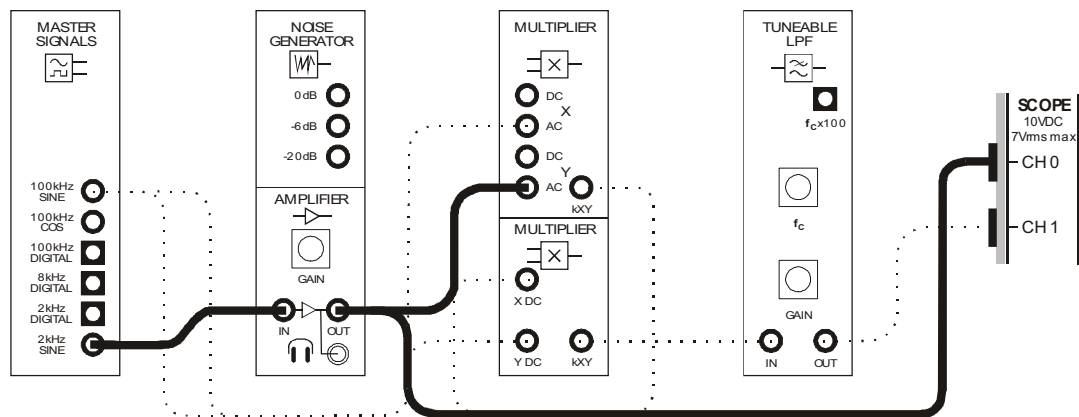

Figure 7
22. Use the Amplifier module to modify the set-up as shown in Figure 7 below.